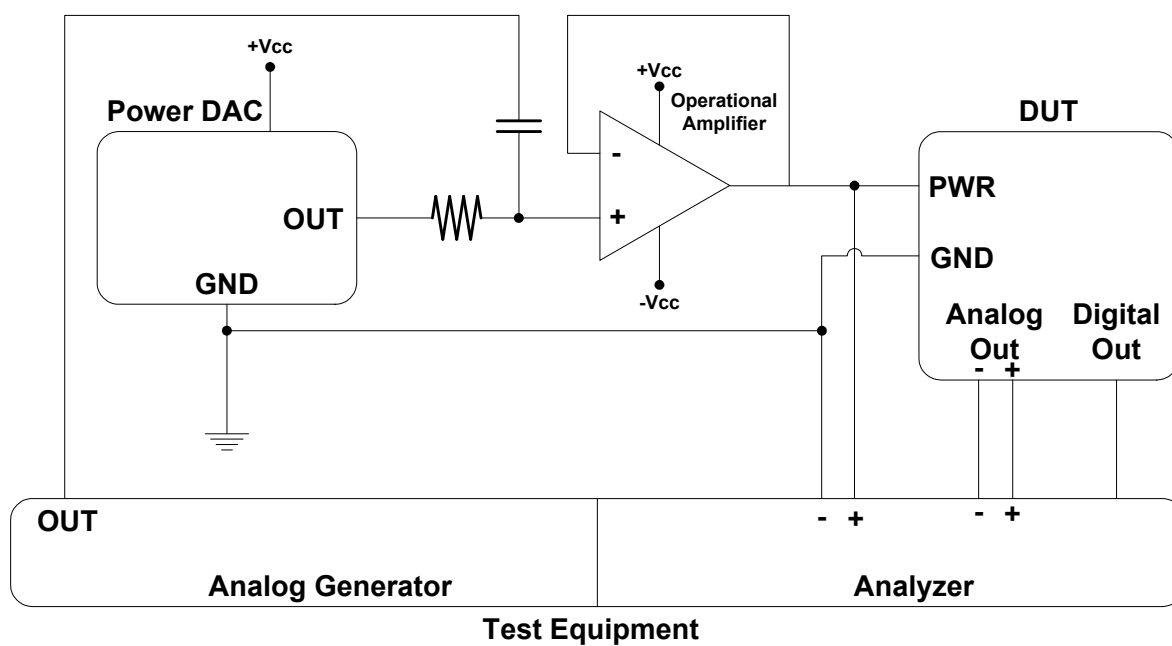

Figure 4. PSRR Test Configuration
14. Valid with the recommended capacitor values on FILT+ and VQ. See Figure 4 for test configuration.
21. Valid with the recommended capacitor values on FILT+ and VQ. See Figure 4 for test configuration.